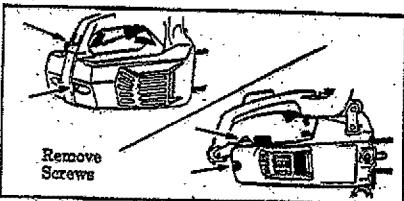

Figure 39
- Remove two screws on rear of unit. Figure 39.